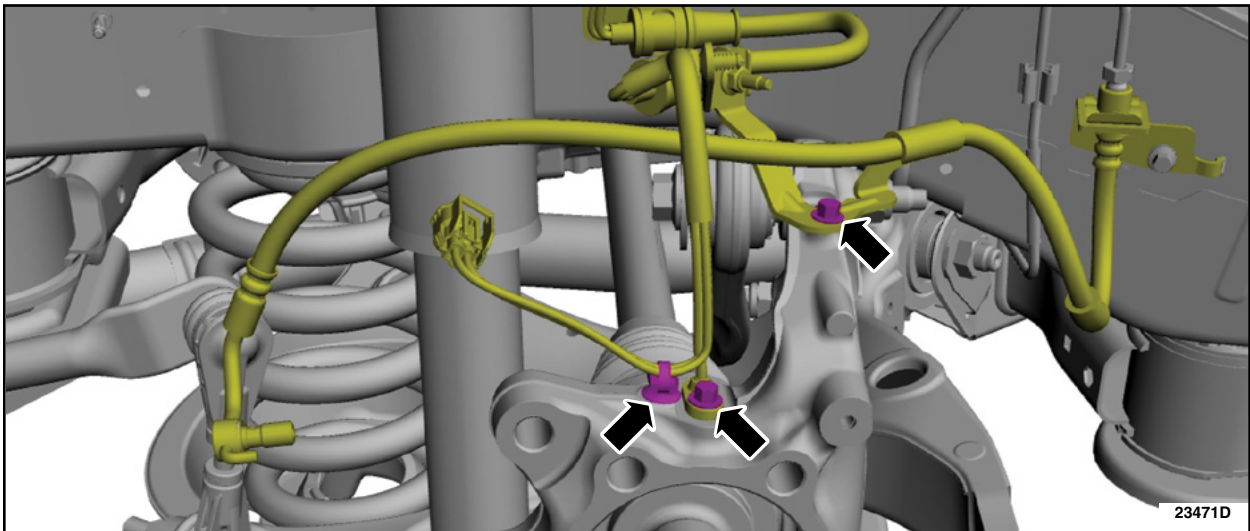

FIGURE 5
10. Remove the LH rear wheel speed sensor bolt and position the wheel speed sensor aside. Then, remove the brake hose bracket bolt and position the brake hose bracket aside. See Figure 5.